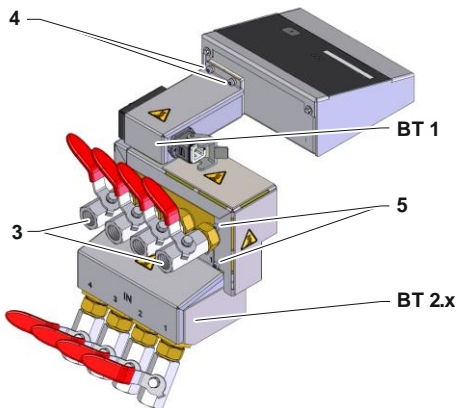

Fig. 3: Flow-5 with ball valve
- If present disassemble shut-off valve OUT 1 and 4 (Label 3 → Fig. 3).
- Disassemble screws (Label 4 → Fig. 3), remove cover and insulation.
- Disassemble screws (Label 5 → Fig. 3), remove cover and insulation.